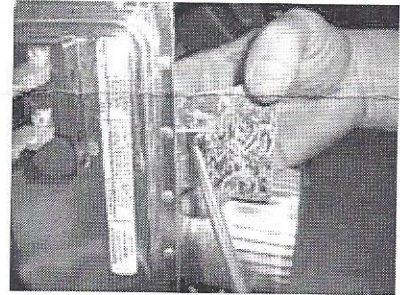

Fig. 3
Step 3 - Replace the screw in fig. 3 with supplied 1/2" screw then reattach the pressure switch mount plate. (See Fig. 3)